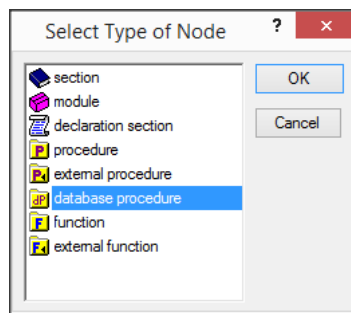

Figure 8.6: The **Select Type of Node** dialog box
- ▶ select the database procedure  from the **Select Type of Node** dialog box (see Figure 8.6), and press the **OK** button,